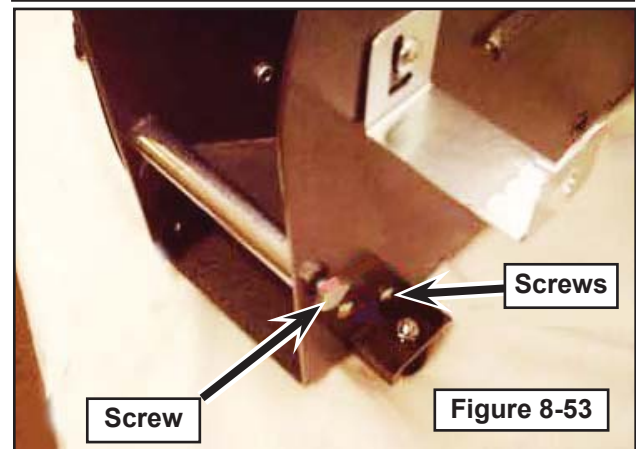

Figure 8-53
4. Remove four (4) screws holding ramp. Remove the ramp (Figure 8-53).